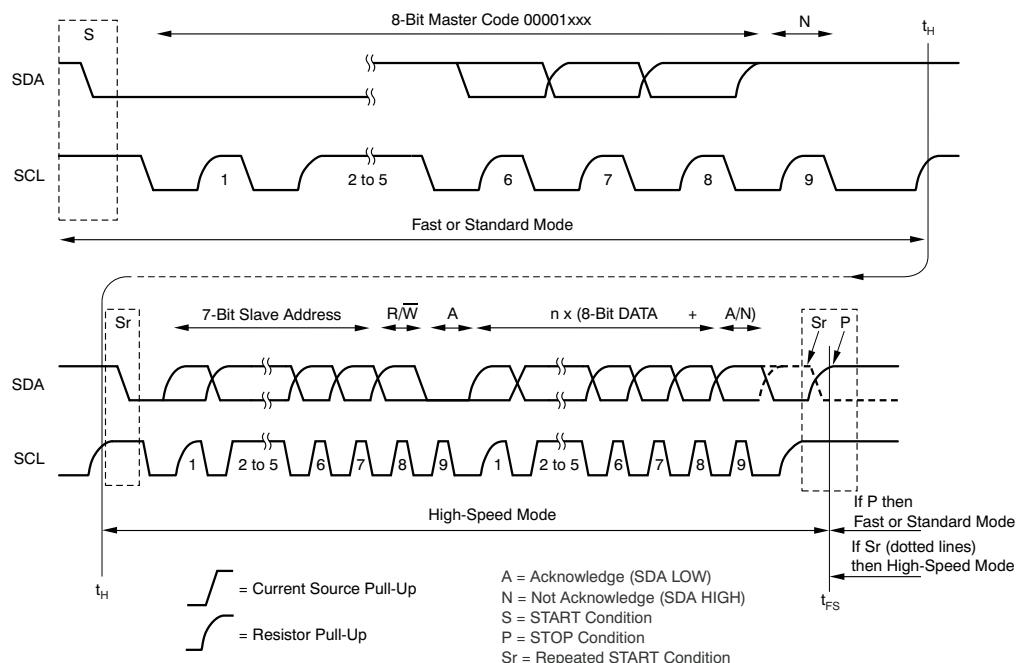

Figure 30. Complete High-Speed Mode Transfer
When the bus master sends the address byte with  $R/W$  bit = 0, and the TSC2007 sends an acknowledge, the pen-interrupt function is disabled. If the command that follows the address byte contains  $PD0 = 0$ , then the pen-interrupt function will be enabled at the end of a conversion. This is approximately 100 $\mu$ s (12-bit mode) or 50 $\mu$ s (8-bit mode) after the TSC2007 receives a STOP/START condition, following the receipt of a command byte (see Figure 31 and Figure 30 for further details about when the conversion cycle begins).
1. START condition (S)
3. Not-acknowledge bit (N)
Figure 30 shows this sequence in more detail. Hs-mode master codes are reserved 8-bit codes used only for triggering Hs mode, and are not to be used for slave addressing or any other purpose. The master code indicates to other devices that an Hs-mode transfer is about to begin and the connected devices must meet the Hs mode specification. Because no device is allowed to acknowledge the master code, the master code is followed by a not-acknowledge bit (N).
After the not-acknowledge bit (N) and SCL have been pulled-up to a HIGH level, the master switches to Hs-mode and enables the current-source pull-up circuit for SCL (at time  $t_H$ ; shown in Figure 30). Because other devices can delay the serial transfer before  $t_H$  by stretching the LOW period of SCL, the master enables the current-source pull-up circuit when all devices have released SCL, and SCL has reached a HIGH level, thus speeding up the last part of the rise time of the SCL.